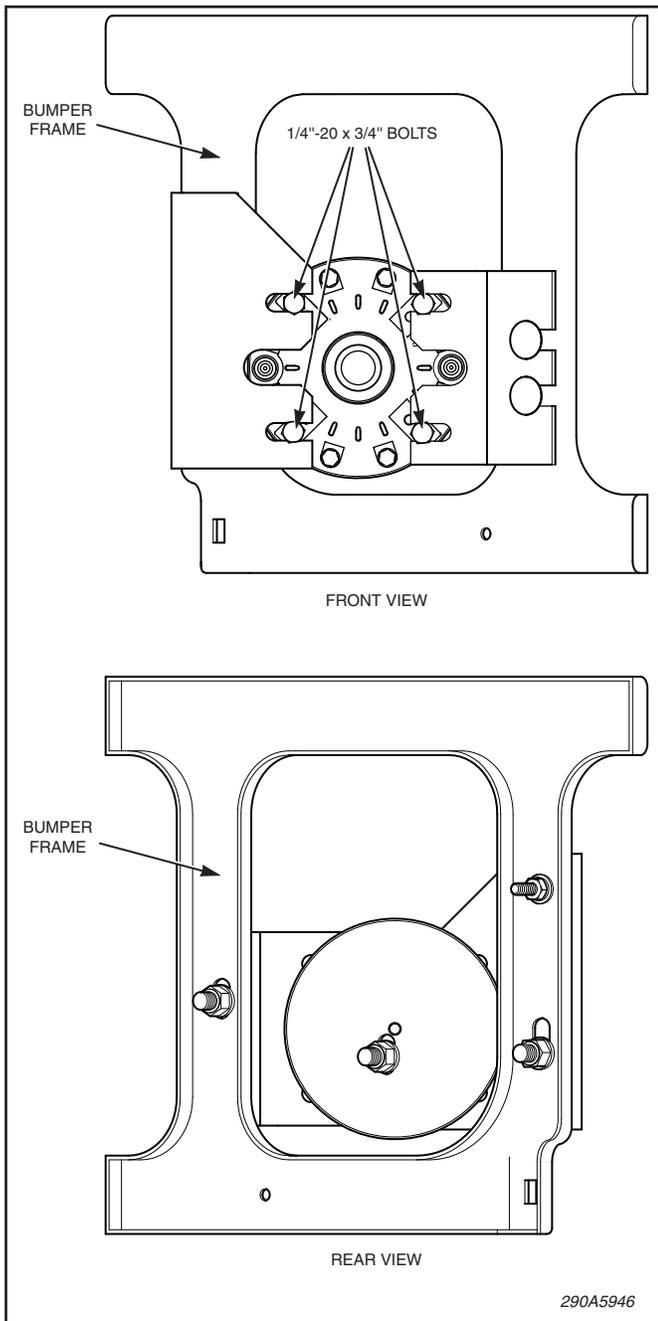

Figure 2.
4. Unscrew the projector cone from the neo-driver assembly. When removing projector cone the fiber and steel washers will become loose and also come off with the stainless steel projector. The rubber boot that fits between the neo-driver and steel projector will also have to be removed. Fingertighten four 1/4”-20 x 3/4” bolts in the outer holes of the neo-driver assembly as shown in Figure 2.